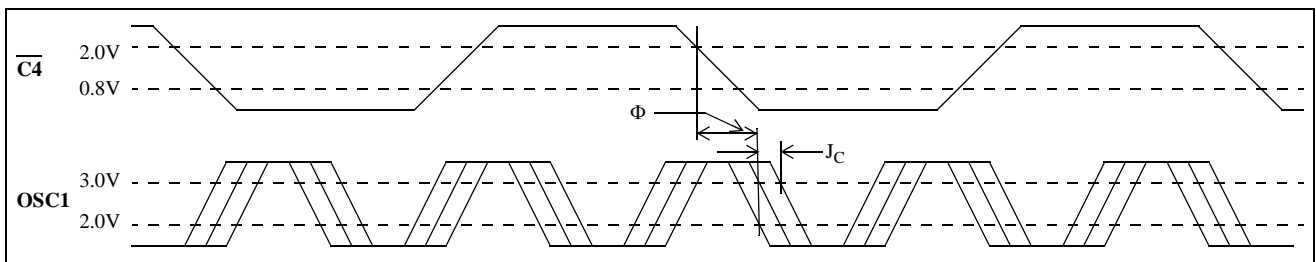

Figure 17 - Frequency Locking for the $\overline{C4}$ and OSC1 Clocks in MAS/DN Mode
2) When operating in MAS/DN Mode, the C4 and Oscillator clocks must be externally frequency-locked (i.e., $F_C=2.5f_{C4}$). The relative phase between these two clocks (Φ in Fig. 17) is not critical and may vary from 0 ns to t_{C4P} . However, the relative jitter must be less than J_C (see Figure 17).